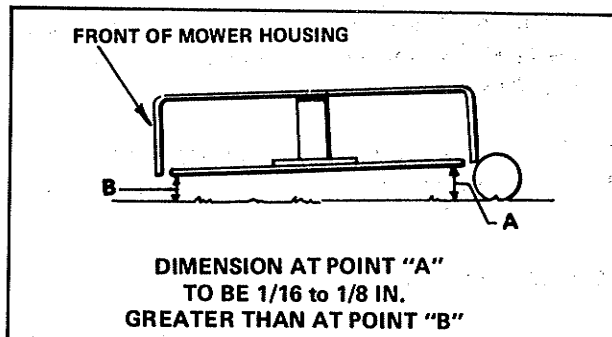
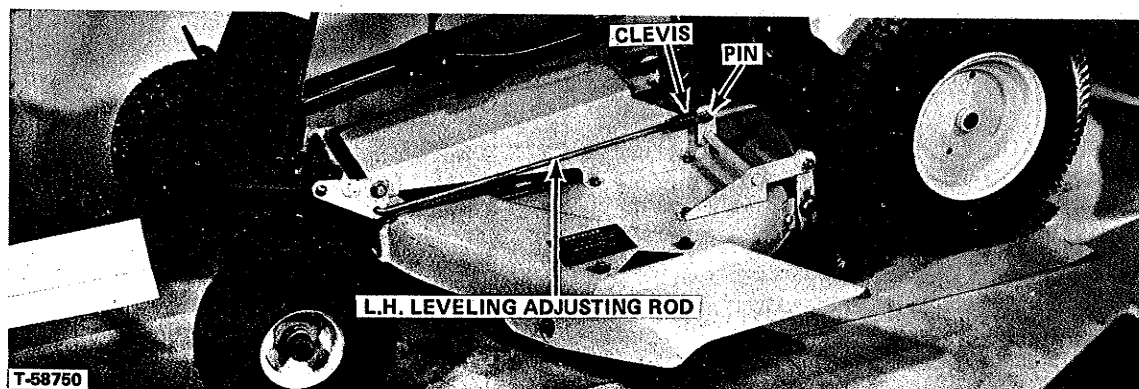

FIGURE 4
FIGURE 5.
1. See Figure 4. With mower on a flat surface rotate the blade by hand so that blade tips point front and rear.
2. See Figure 4. Measure the distance from each blade tip to the ground. The dimension at point "A" at rear of mower must be $\frac{1}{16}$ to $\frac{1}{8}$ inch greater than at point "B" at front of mower.
3. To raise or lower the front edge of the mower remove the cotter, pins and pins from the clevis on rear end of right hand and left hand leveling adjusting rods. To raise the blade in front, turn clevises onto the leveling rods, to lower front, turn clevises off of leveling rods. Turn the same number of turns for each clevis. Pin the clevises to the arms (Figure 5) and check dimensions (Figure 4).